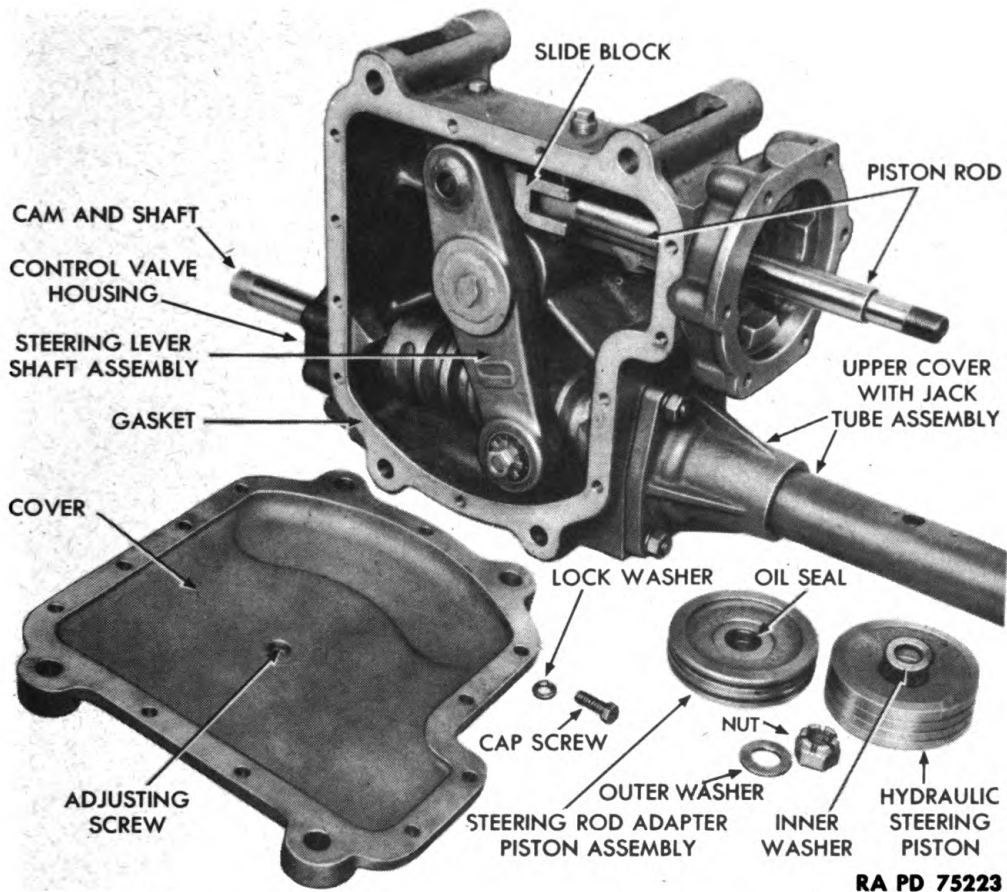

Figure 14 — Steering Gear Housing — Cover Removed
b. Disassemble Housing (fig. 14). Remove cap screws and lock washers that hold side cover on housing, and remove cover and cover gasket. Remove adjusting screw and lock nut. Lift steering lever shaft assembly out of housing.
c. Remove Slides and Slide Block (fig. 14). Remove two cotter pins, and pull pin out of slide block, then pull piston rod out of housing. Remove four cap screws and lock washers, and remove slides and slide block.
f. Disassemble Steering Lever Shaft (figs. 14 and 15). Straighten leg of washer, and remove nut and washer. Drive stud out of shaft, and remove rollers. Press cones out of shaft.
b. **Assemble Steering Housing (figs. 14 and 16).** Install cylinder housing and gasket on steering housing, and fasten with nuts and lock washers. Press two camshaft upper and lower bushings and steering lever shaft bushings in housing. Install worm and shaft.